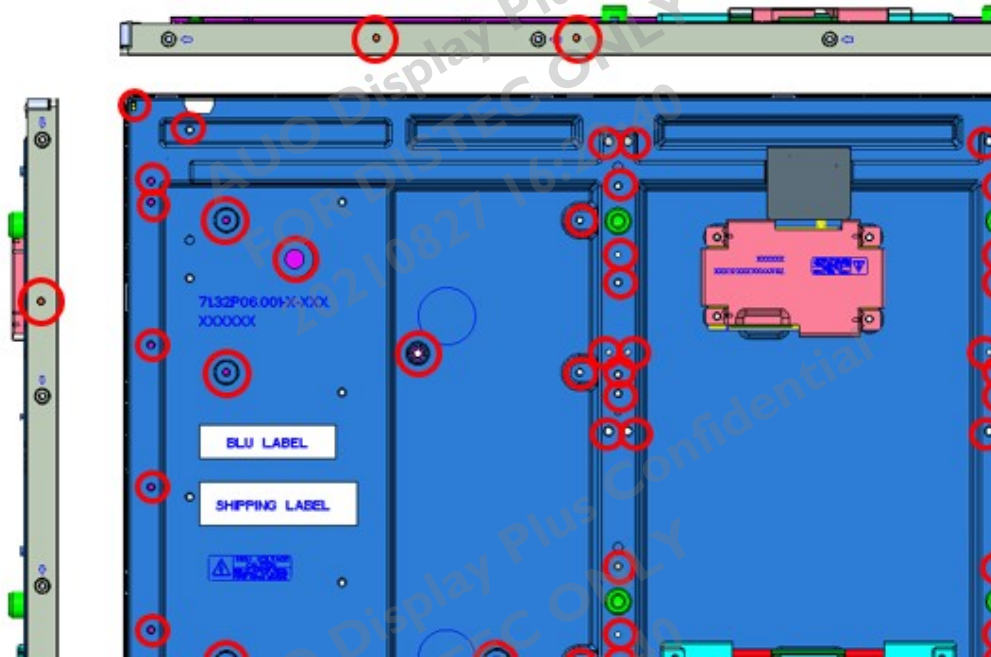

Figure 1
- (1) AUO module dust tests are conducted with marked areas (e.g., holes and slits around the front bezel and back cover) sealed, to comply with JIS D0207 (see Figure 1).
- (2) To prevent particles from entering the module, please ensure the set has all the highlighted areas (holes and slits) adequately sealed or covered by set mechanism.
- (3) AUO’s testing procedure cannot replicate all real world operation scenarios. It is up to the module user to apply the most appropriate dust resistance solution for its particular application.